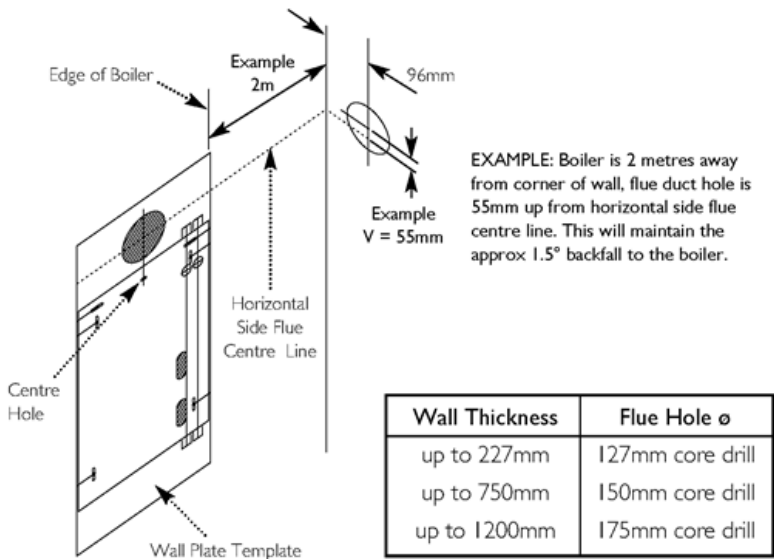
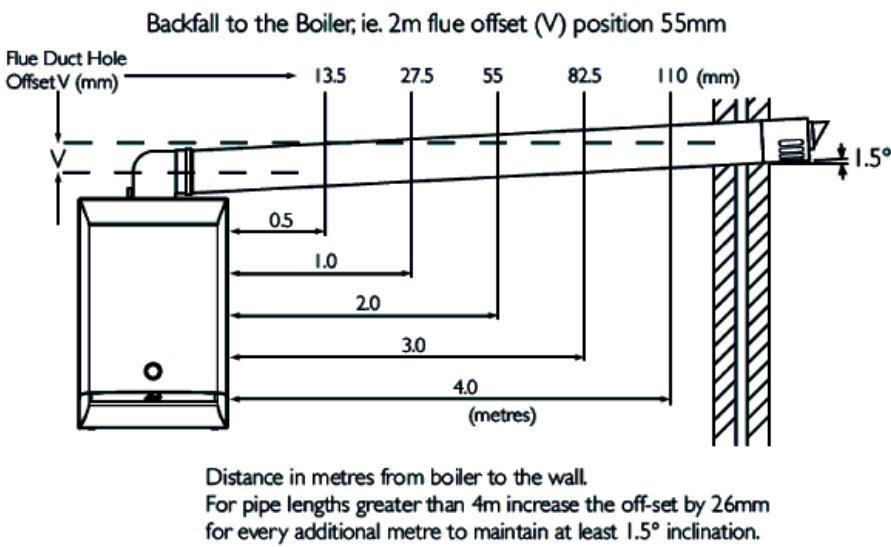

Fig. 20
Fig. 21
3. Mark the position of the centre hole for the wall plate (Fig. 20).
For side exit: project the horizontal side flue centre line into the corner of the room and along the wall to where the flue hole will be drilled. (Fig. 20). The diagram (Fig. 21) shows the dimensions required to ensure any horizontal flue is installed with a fall to the boiler of at least 1.5°. Mark the offset (V) dimension and if required, mark the position of the gas and water pipes. Remove the template.
5. Cut the hole for the flue (minimum diameter 127mm, see table (Fig. 20) for wall thicknesses and flue diameters).